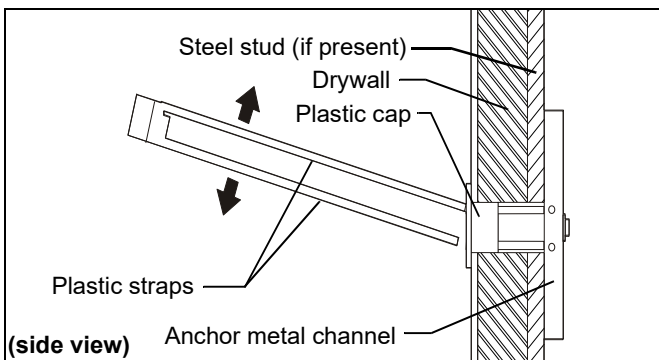

Figure 10
4. Snap off plastic straps on snaptoggle at wall by pushing side to side, snapping off straps level with flange of plastic cap. (See Figure 10)